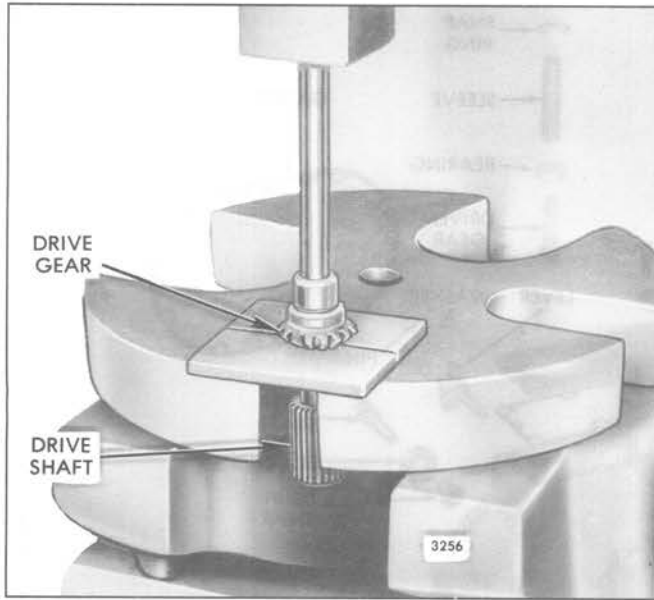

Fig. 5 – Removing Drive Gear from Drive Shaft
- c. Place two split brass plates beneath the teeth of the drive gear, then support the assembly on the bed of an arbor press (Fig. 5). Place a brass rod on the end of the drive shaft, then press the drive shaft from the drive gear.